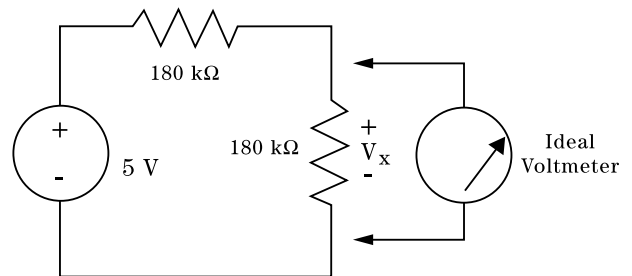
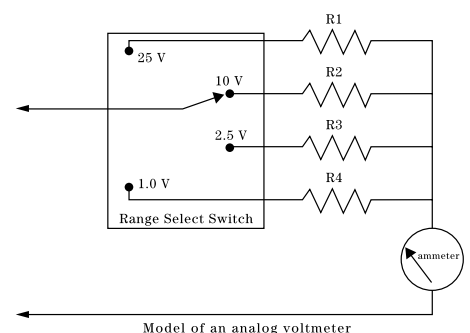

Figure 1
Figure 2
- a. Consider the circuit of Fig. 1. Suppose you wish to measure the output, V_x . From voltage division, you expect to read 2.5 V. You carefully wire up the circuit and, with an analog voltmeter, measure a much lower voltage! What happened? The problem is one of "loading." This happens to some degree in ALL measurements. Adding test equipment to the circuit changes the circuit-under-test. In previous lab exercises this has gone unnoticed because the effect is very small with a digital meter. Loading is much more pronounced with an analog meter. This lab examines why this occurs and how an OP AMP can be used to correct the problem.
- b. Use the voltage divider equation to show that for the circuit of Fig. 1 the anticipated value of V_x is indeed 2.5 V. Figure 2 shows a model of the analog voltmeter (AMM). The meter movement is actually an ammeter, with a resistance very near zero. It is made to act like a voltmeter by inserting a carefully chosen series resistor. For the circuit of Fig. 1 compute the anticipated value of V_x if measured using the non-ideal voltmeter. Assume the meter resistance plus the scale resistor equals 50 k Ω .
- Configure the power supplies to provide $\pm V_{CC}$. Refer to Fig. 1 in Lab VI as a guide. Adjust the output of the supplies so that $\pm V_{CC}$ is ± 15 V.
- Connect the circuit shown in Fig. 1. Measure the output, V_x , with the analog voltmeter. Does it indicate the predicted voltage? It will not because the analog meter draws current to deflect the needle, thus “loading” the voltage divider circuit.